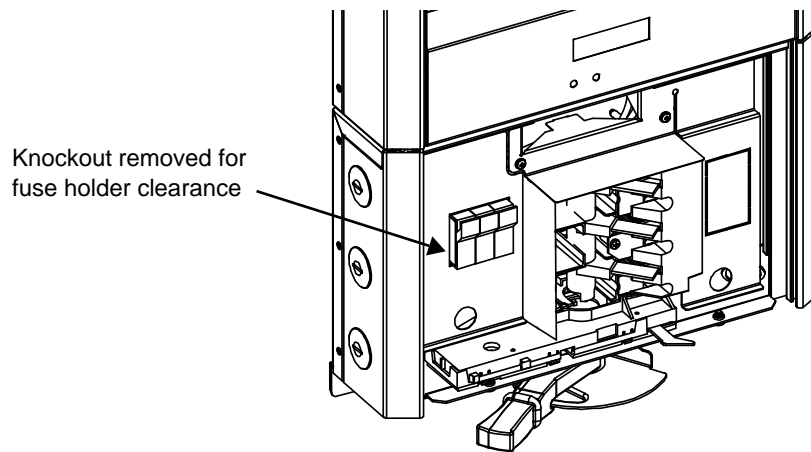

Figure 3-12 Insulating Barrier with DC Knockout Removed
9. Remove the knockout on the DC side of the insulating barrier for fuse holder clearance. See Figure 3-12 on page 3–14.